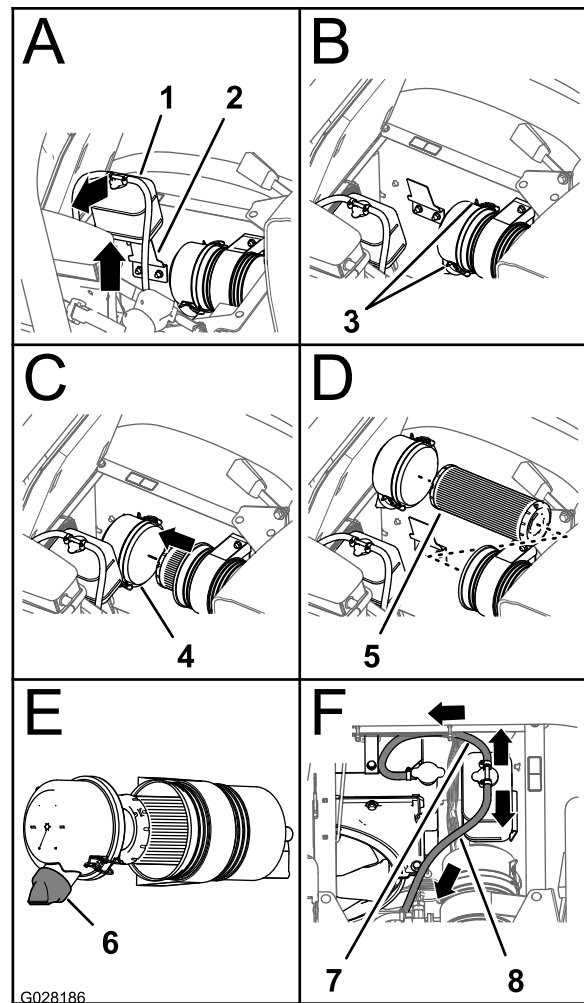

Figure 50
3. Lift the coolant overflow tank up and off of the tank-support bracket (Figure 50).
4. Loosen the 2 latches that secure the dust cap to the air cleaner body (Figure 50).
6. Wipe clean the inside of the dust cap, air cleaner body, and dust valve with a damp rag (Figure 49 and Figure 50).
7. Insert the air filter element into the air cleaner body (Figure 50).
8. Install the cover onto air cleaner body and secure the cover with the 2 latches (Figure 50).
Note: Ensure that the dust valve is aligned between 5 to 7 o'clock position when viewed from the end (Figure 50).
9. Align the coolant overflow tank to the tank-support bracket and seat the tank firmly (Figure 50).
Important: Ensure that the pressure relief hose is routed forward and down and tank-vent hose is routed rearward as shown in Figure 50.